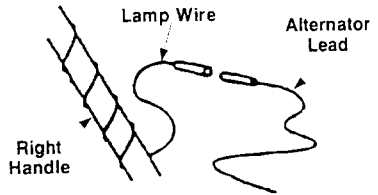

FIGURE 13
- Wrap the wire from the lamp down the right handle until the wire can be plugged into the alternator lead wire under the fuel tank. See Figure 13.